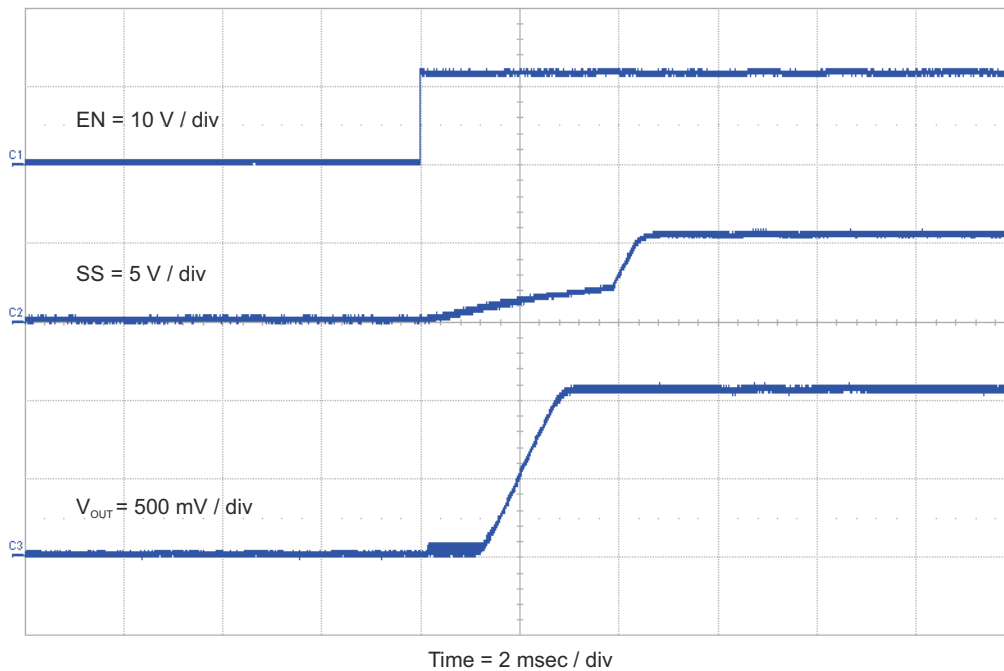

Figure 4-10. TPS54327EVM-686 Start-Up Relative to EN
The TPS54327EVM-686 start-up waveform relative to enable (EN) is shown in Figure 4-10.